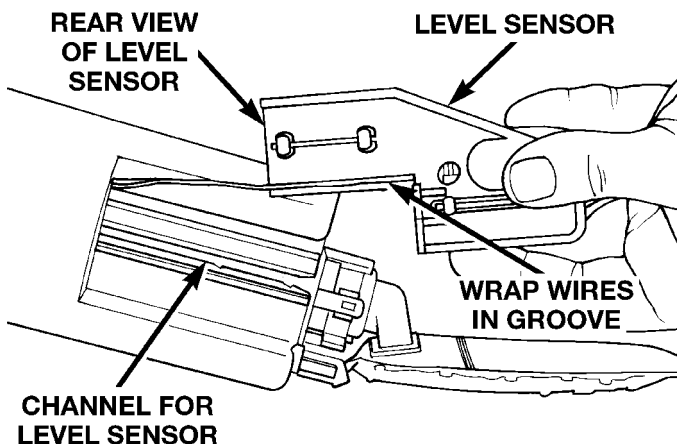

Fig. 27 Level Sensor Removal/Installation
(6) Slide level sensor wires through opening fuel pump module (Fig. 27).
(3) While feeding wires into guide grooves, slide level sensor up into channel until it snaps into place (Fig. 27). Ensure tab at bottom of sensor locks in place.
(4) Install level sensor wires in connector. Push the wires up through the connector and then pull them down until they lock in place. Ensure signal and ground wires are installed in the correct position.
(5) Install locking wedge on connector.
(6) Push connector up into bottom of fuel pump module electrical connector.
(7) Install fuel pump module. Refer to Fuel Pump Module in this section.